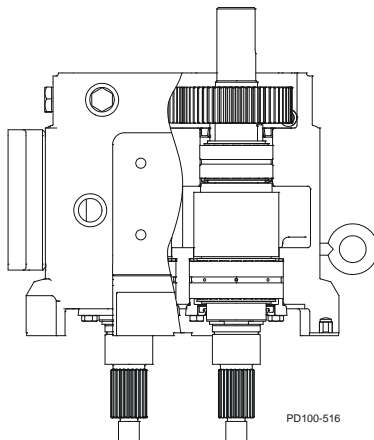

Figure 41 - Press Shafts from Gear Case
5. Place the gear case on an arbor press with the liquid end facing down. Protect the shaft ends with a wood or plastic block, and press the shafts out of the gear case (Figure 41).